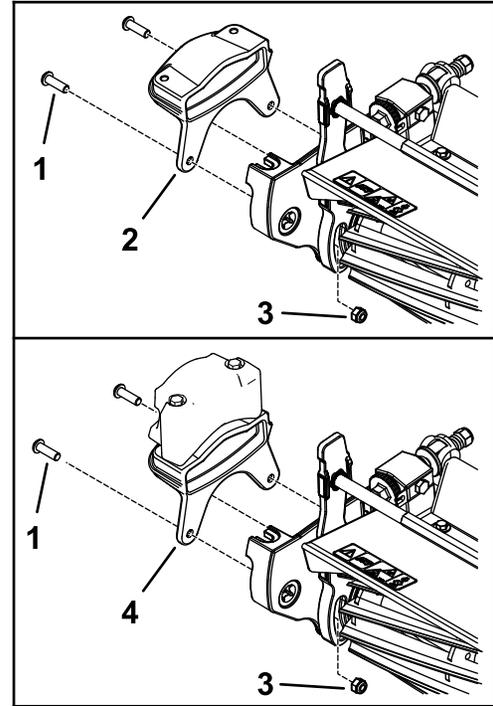

Figure 10
- Secure the new weight to the side of the cutting unit using 2 bolts (5/16 inch) and 2 nuts (5/16 inch) as shown in Figure 10.